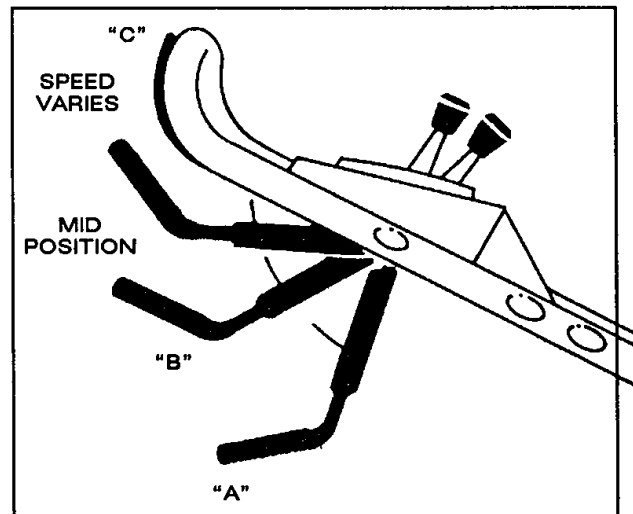

Figure 10
7. BLADE AND TRACTION OPERATION (Fig. 10)—Move control bar down to "A" and raise to "B" to engage blade. Squeeze control bar against handle "C" to drive. Ground speed varies, depending on space between control bar and handle. To disengage traction drive but keep blade engaged, gradually release control bar to mid position. To self-propel with blade disengaged, simply squeeze control bar against handle, eliminating downward movement necessary for blade engagement.